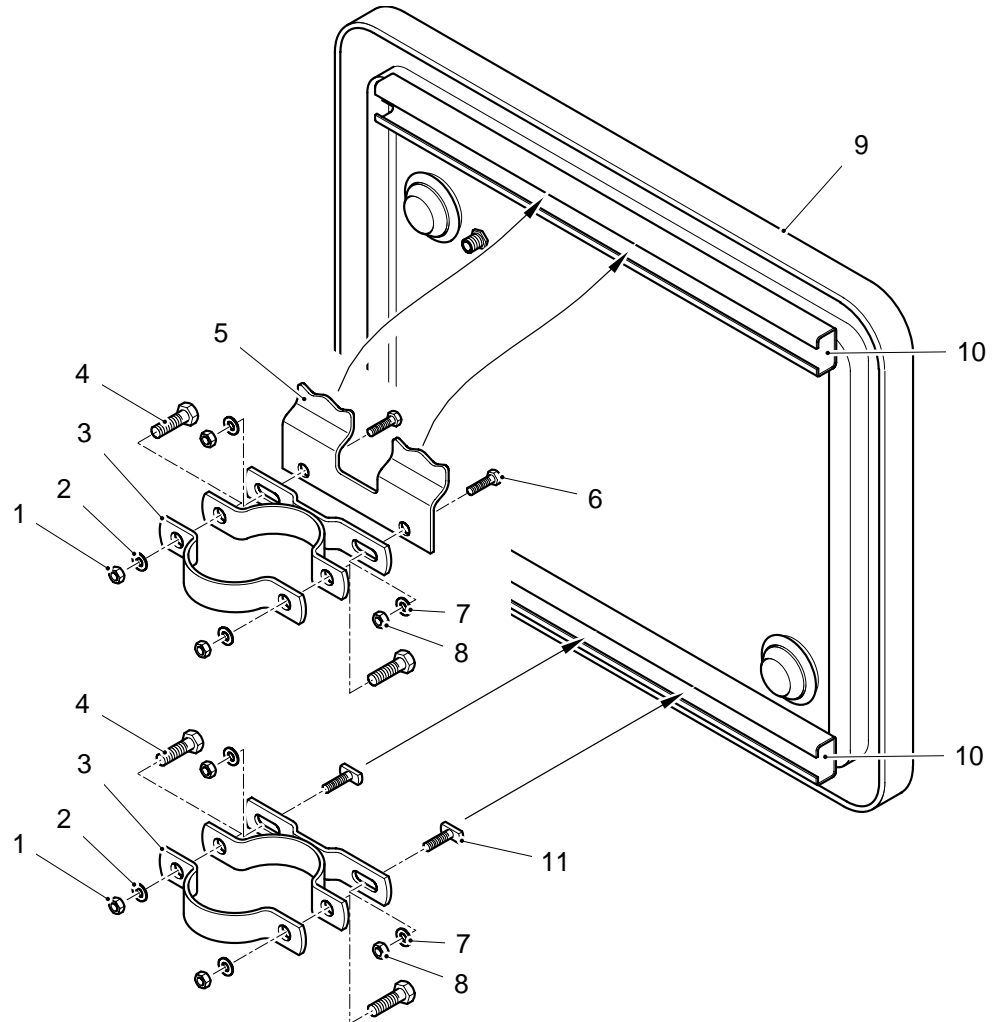

Figure 7-4 Mounting the DFS 600
- (1) Unscrew the hexagonal nuts (Figure 7-4 Item 1) with their washers (Figure 7-4 Item 2) from the pipe cuffs supplied (Figure 7-4 Item 3) and dismantle the pipe cuffs.
- (2) Bolt the mounting plate (Figure 7-4 Item 5) on the upper pipe cuff half to the plate bracket with two hex head bolts (Figure 7-4 Items 6) and hexagonal nuts (Figure 7-4 Item 8) with their washers (Figure 7-4 Item 7). Here the hex head bolts must be inserted into the mounting plate.
- (3) Assemble the pipe cuff around the pole and bolt together loosely at the desired installation height.
- (4) Hook the mounting plate (Figure 7-4 Item 5) of the upper pipe cuff into the upper C-rail (Figure 7-4 Item 10) on the DFS 600 (Figure 7-4 Item 9).
- (5) Insert the two outward-pointing T-bolts (Figure 7-4 Item 11) on the lower pipe cuff half in the plate bracket and screw loosely with the hexagonal nuts (Figure 7-4 Item 8) and washers (Figure 7-4 Item 7). Assemble the lower pipe cuff around the pole and screw together lightly.
- (6) Push the lower pipe cuff up to the height of the lower C-rail. Insert the T-bolts (Figure 7-4 Item 11) into the lower C-rail and screw together lightly.